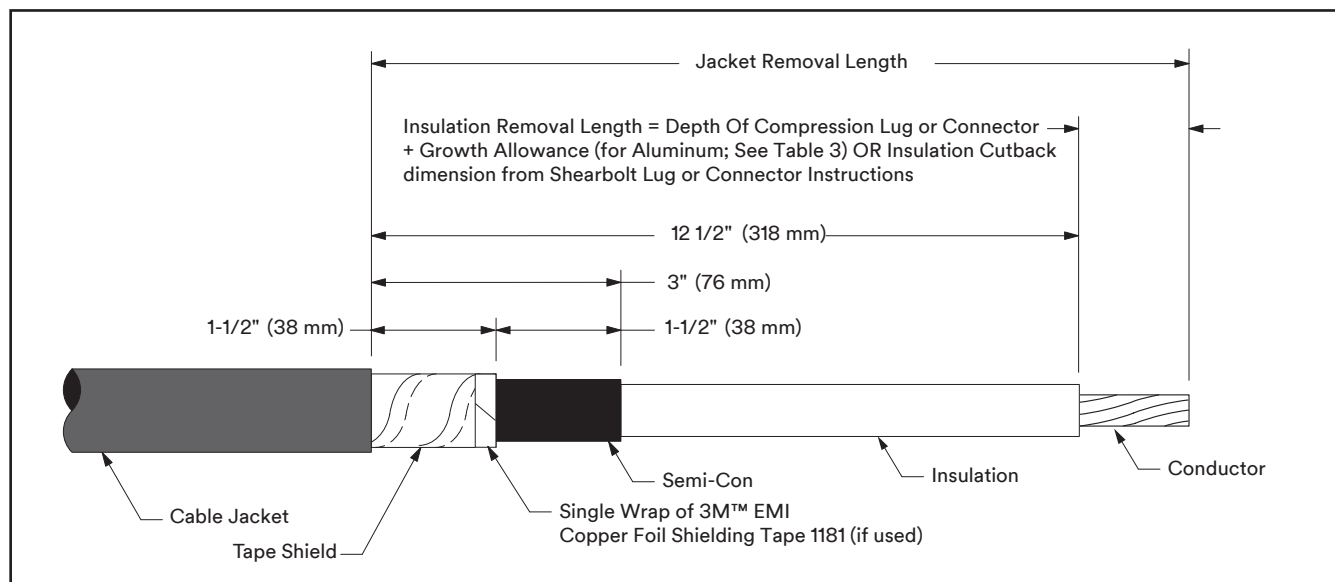

Figure 1
- 2.2 Prepare cable using dimensions shown in Figure 1. **BE SURE TO ALLOW FOR DEPTH OF TERMINAL LUG.** If necessary to prevent tape shield from unrolling, hold down edge with a single wrap of 3M EMI Copper Foil Shielding Tape 1181.